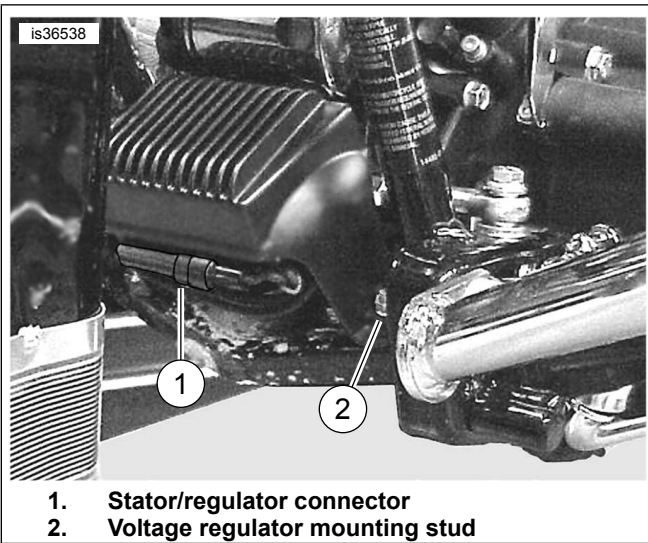

Figure 3. Remove Stator/Regulator Connector
4. See Figure 3. Remove and disconnect the stator/regulator connector (1) from the bracket on the bottom of the voltage regulator.
5. Remove voltage regulator mounting nuts, washers and star washers from stud (2) and save for installation.